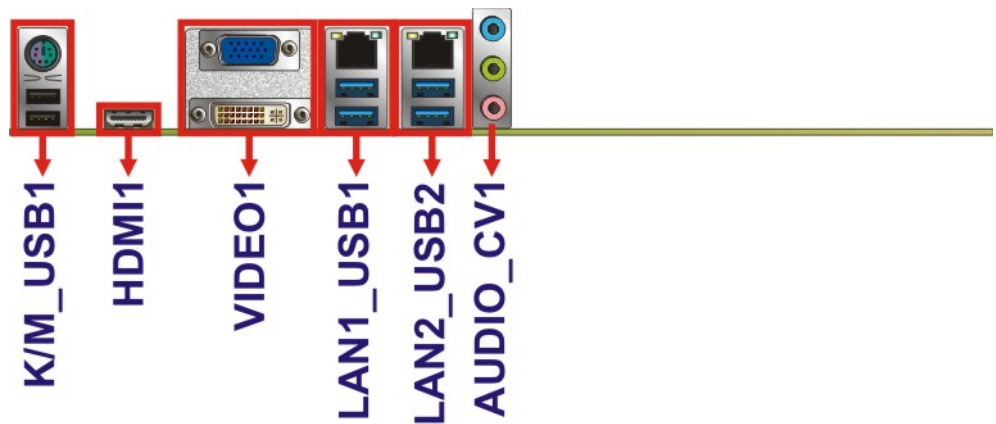

Figure 3-34: External Peripheral Interface Connector
See Figure 3-34
CN Location: See Figure 3-34
- CN Location: See Figure 3-34
CN Location: See **Figure 3-34**
- CN Location:** See **Figure 3-34**